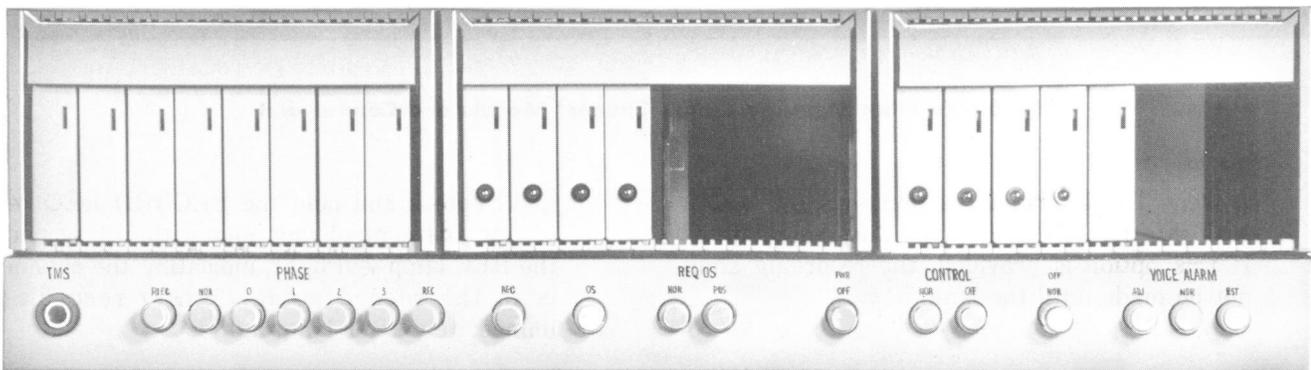

Fig. 7—Phased Message Channel Module and Control Unit
(3) Insert one plug of the W1 patch cord into the SIGNAL jack on the storage module and the other plug into the TMS jack on the appropriate phased message control unit (Fig. 7).
(4) Depress the REQ OS ROS key on the control unit.
(5) When the OS lamp on the control unit lights, depress the PHASE RREC key.
(6) Monitor the message on the selected channel for verification of the correct channel selection.
(7) Depress and hold the REC key, and the REC lamp lights. **Start** recording **immediately** after REC lamp lights.